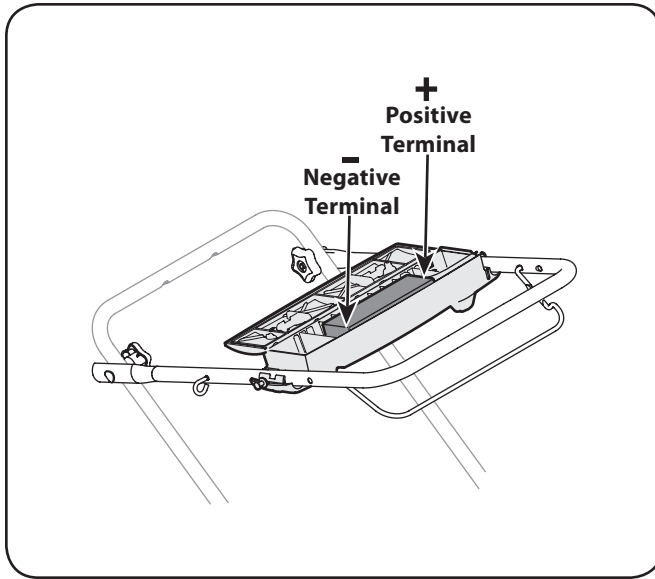

Figure 7-6
**NOTE:** The battery you have may differ slightly from the one shown in Fig. 7-6. Refer to the Parts List.
**IMPORTANT:** When replacing battery pack in handle panel, battery pack must be positioned with the positive terminal to the left side and the negative terminal to the right side of panel (Positive terminal is closest to the key switch). See Fig. 7-6. Replacing battery pack incorrectly will cause serious damage.